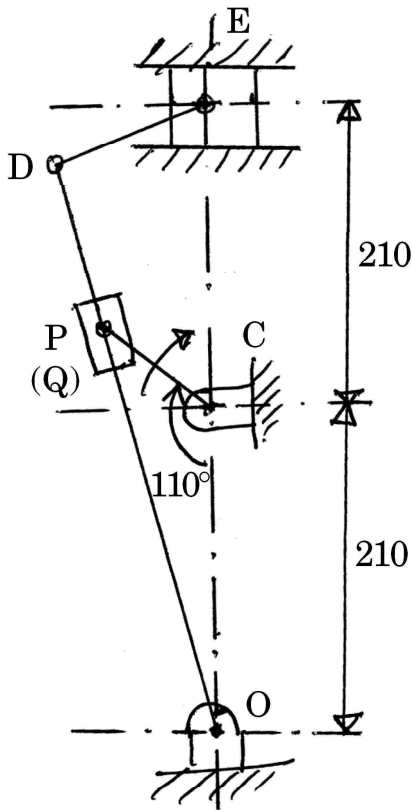

Fig. 1
- (b) The Fig. 1 shows a crank and slotted lever quick return mechanism in which the distance between the fixed centres O and C is 210 mm. The driving crank CP is 105 mm long and it rotates clockwise at 90 rpm. The length of the